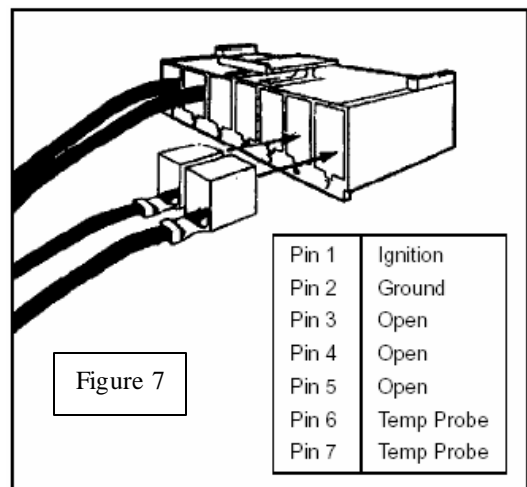

Figure 7
- Connect terminated wires into the 7-pin mirror connector block – pin locations #6 and #7. Pin designations are located on the rear face of the connector. The harness is not polarity conscious. (**Figure 7**)